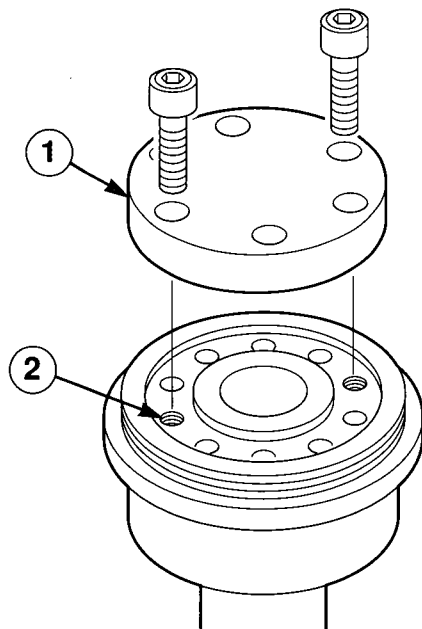

Figure 46— Attach pusher block to bearing block. (1) Pusher Block, (2) Tapped Hole.
2. **If bearing blocks need to be replaced** (see "Inspection", page 42), use tap to thread two (2) opposing holes in each bearing block, 3/8-16 for the 22 knife blocks and 7/16-14 for all other blocks.
3. **Using the tapped set of holes,** attach the pusher block to one of the bearing blocks (Figure 46).